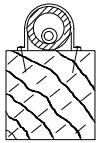

Figure 8
- 1. Strap PVC conduit to the pole with 2-hole heavy duty pipe straps or galvanized perforated plumber's tape spaced not more than 3 feet apart (see Figure 8).